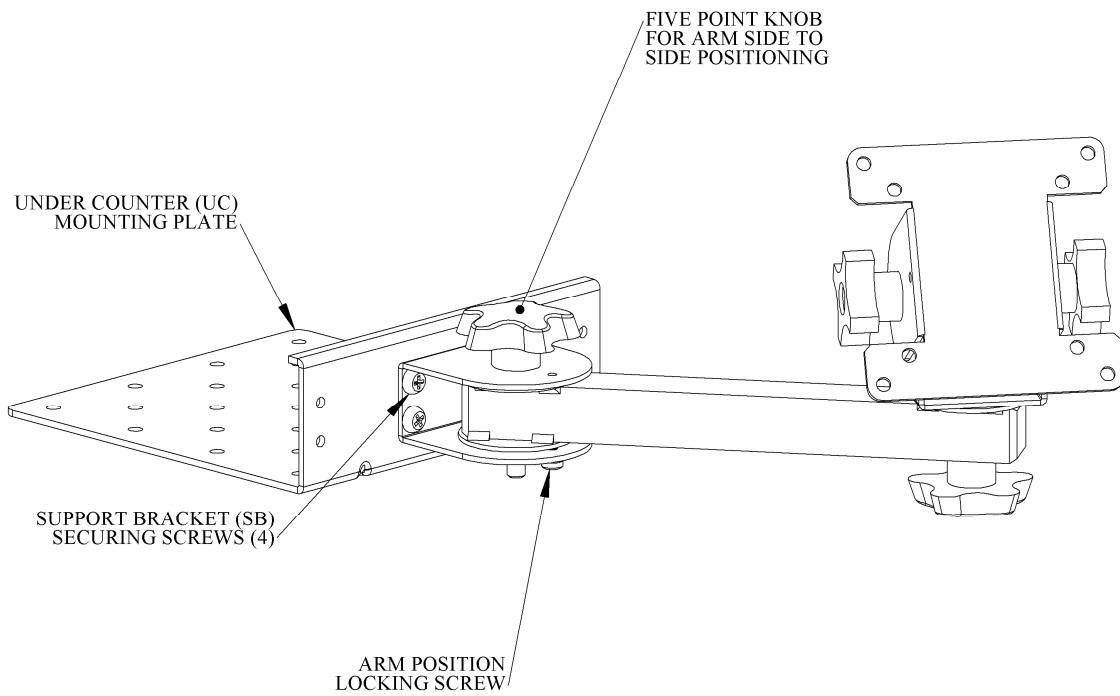

Figure 1 - Under Counter Mount w/ 8" arm, and a Screen Pan and Tilt Head (PN 80200)
All of these assemblies include the *UC mounting plate* which supports either one or two arms (See Figure 1).
1. Preassemble the mount with the pan and tilt head and/or printer tray attached but without the equipment installed (See Figure 1).
1. The SB brackets should still be attached to the ends of the arms. Hold the arm so that the five point knob is on top of the SB bracket and align the holes in the SB bracket with one of the patterns of threaded holes on the mounting plate (See Figure 1).
1. Slightly loosen the large five point knob on top of the *Support Bracket* enough so that the arm will move freely (See Figure 1).
3. Using a standard Philips screwdriver, gently tighten the locking screw on the bottom of the *Support Bracket* (See Figure 1).